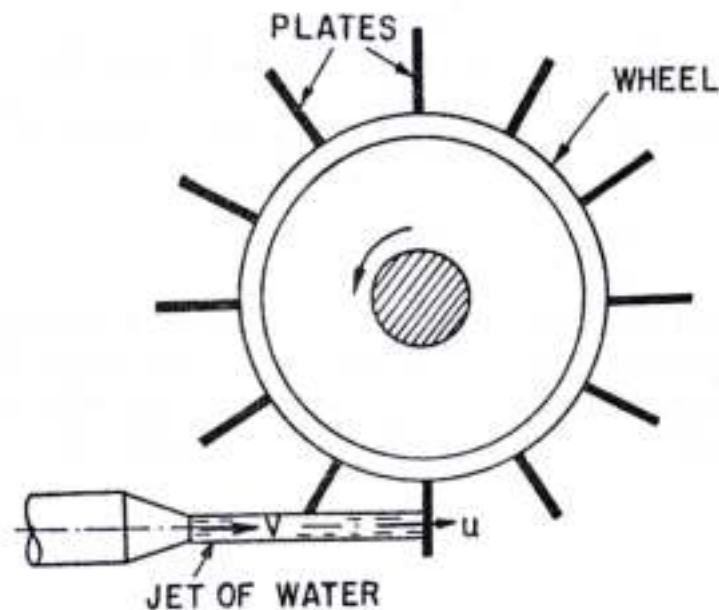

Fig. 17.22. Jet striking a series of vanes.
**17.4.5. Force Exerted by a Jet of Water on a Series of Vanes.** The force exerted by a jet of water on a *single* moving plate (which may be flat or curved) is not practically feasible. This case is only a theoretical one. In actual practice, a large number of plates are mounted on the circumference of a wheel at a fixed distance apart as shown in Fig. 17.22. The jet strikes a plate and due to the force exerted by the jet on the plate, the wheel starts moving and the 2nd plate mounted on the wheel appears before the jet, which again exerts the force on the 2nd plate. Thus each plate appears successively before the jet and the jet exerts force on each plate. The wheel starts moving at a constant speed.